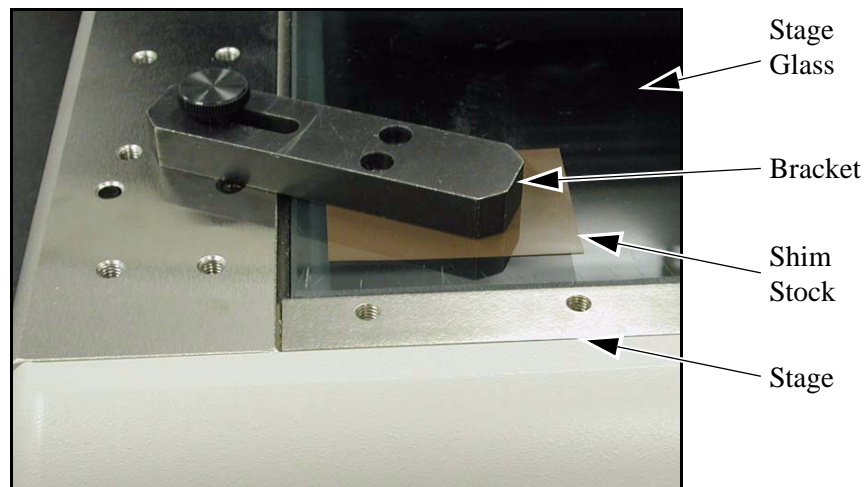

Figure 6-3 Bracket Attached to the Stage
11. Attach a bracket with a straight bottom edge to each corner of the stage. Then place 0.010" shim stock between each bracket and the stage glass (see Figure 6-3).